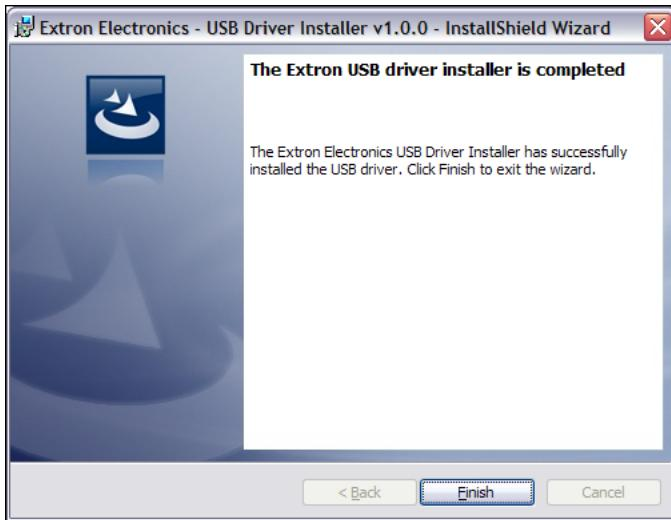

Figure 14. Successful USB Driver Installation
3. When the installer has completed the installation of the USB drivers, the following screen appears (see figure 14):